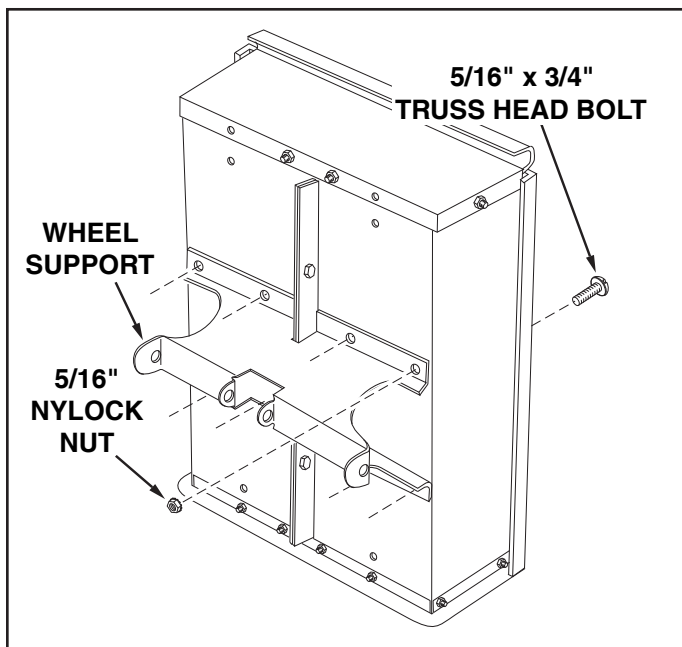

FIGURE 6
10. Assemble the wheel support to the cart using eight 5/16" x 3/4" truss head bolts and 5/16" nylock nuts as shown in figure 6. Heads of bolts go to the inside of cart bed. **Tighten.**